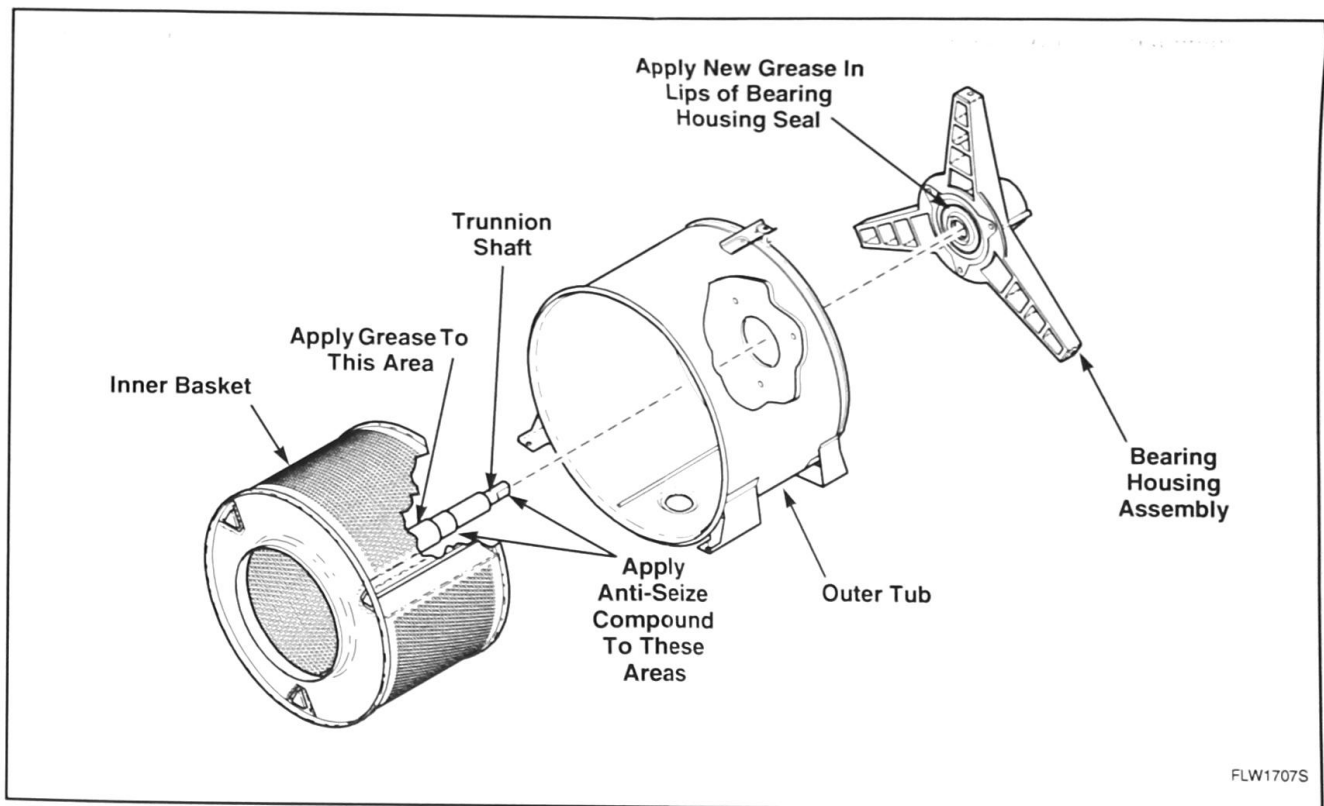

Figure 4
14. Apply No. 27604P Anti-Seize Compound to area of the trunnion shaft that will be contacting front and rear bearings. Refer to *Figure 4*.
15. Apply a film of grease to area of trunnion shaft that will be contacting bearing housing seal. Refer to *Figure 4*.
16. Clean out old grease from the bearing seal lips and fully repack with new grease. Refer to *Figure 4*.